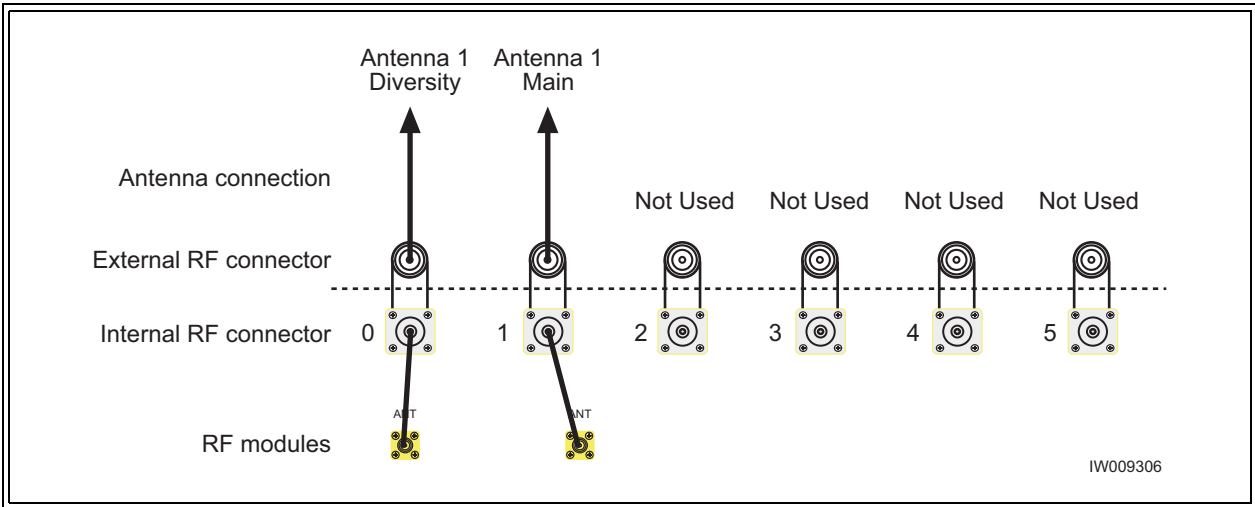

Figure 2-19 Antenna Cabling for O6 Configuration
- Connect your antennas as shown in Figure 2-19.